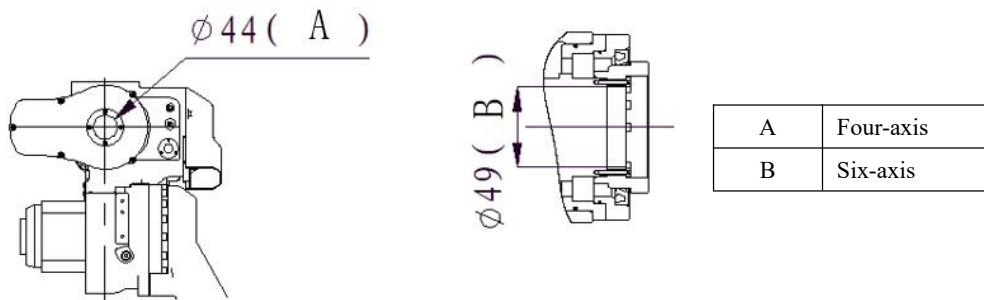

Figure 3.10 SA6/1440H four-axis and six-axis hollow diameter dimensions
5. Hollow diameter dimensions of SA6/1440H four-axis and six-axis, as shown in Figure 3.10